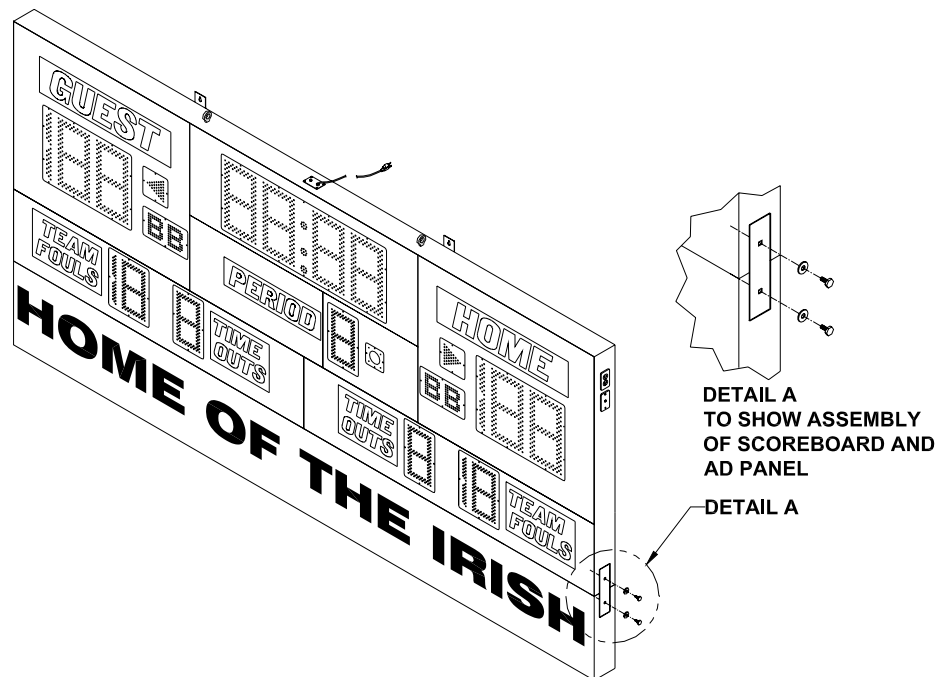

Figure 3 2570 with Bottom Sponsor Panel Attached
2. Fasten an attachment plate to the right side of the scoreboard and sponsor panel using the provided washers and bolts as shown in figure 3.